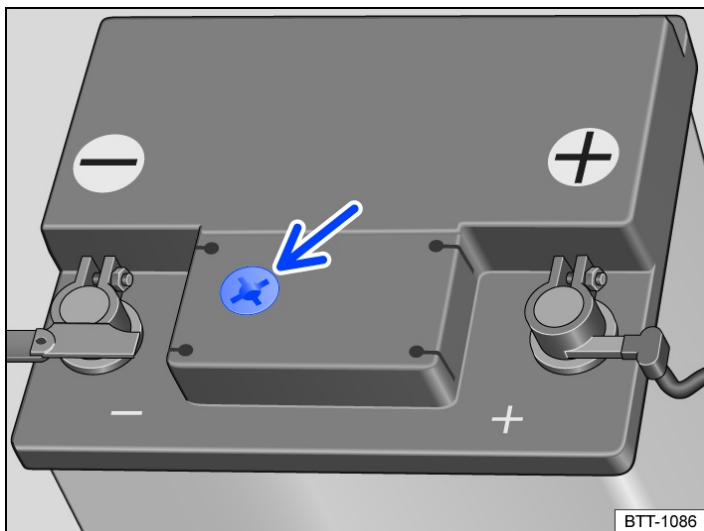

Fig. 1 Battery window on the top of the 12-volt vehicle battery (illustration).
- Ensure that enough light is available for you to clearly see the colour indicator in the round battery window on the top of the 12-volt vehicle battery (arrow) → Fig. 1. Never use naked flames or glowing objects as a light source.